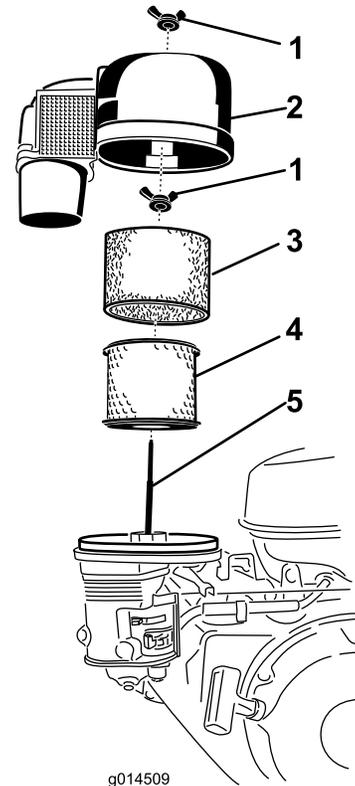

Figure 15
3. Remove the wing nut and lift off the air-cleaner cover with the air-filter cowl (Figure 15).
4. Remove the foam element (Figure 15).
5. Remove the wing nut on top of the paper element and remove the paper element (Figure 15).
1. Clean the paper element by tapping it gently to remove dust. If it is very dirty, replace the paper element (Figure 15).